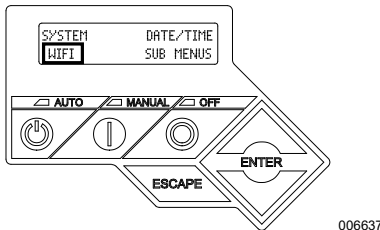

Figure 3-6. Select Wi-Fi Menu
1. See Figure 3-6. From the main controller display, navigate to the Wi-Fi menu and press ENTER.